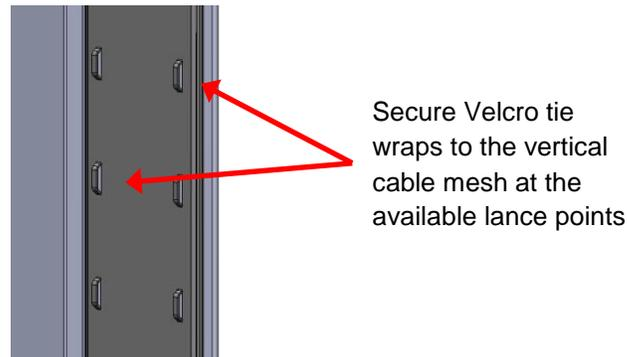

Figure 20
2. Attach the trunk cable to the vertical cable mesh using velcro tie wraps (Figure 20).